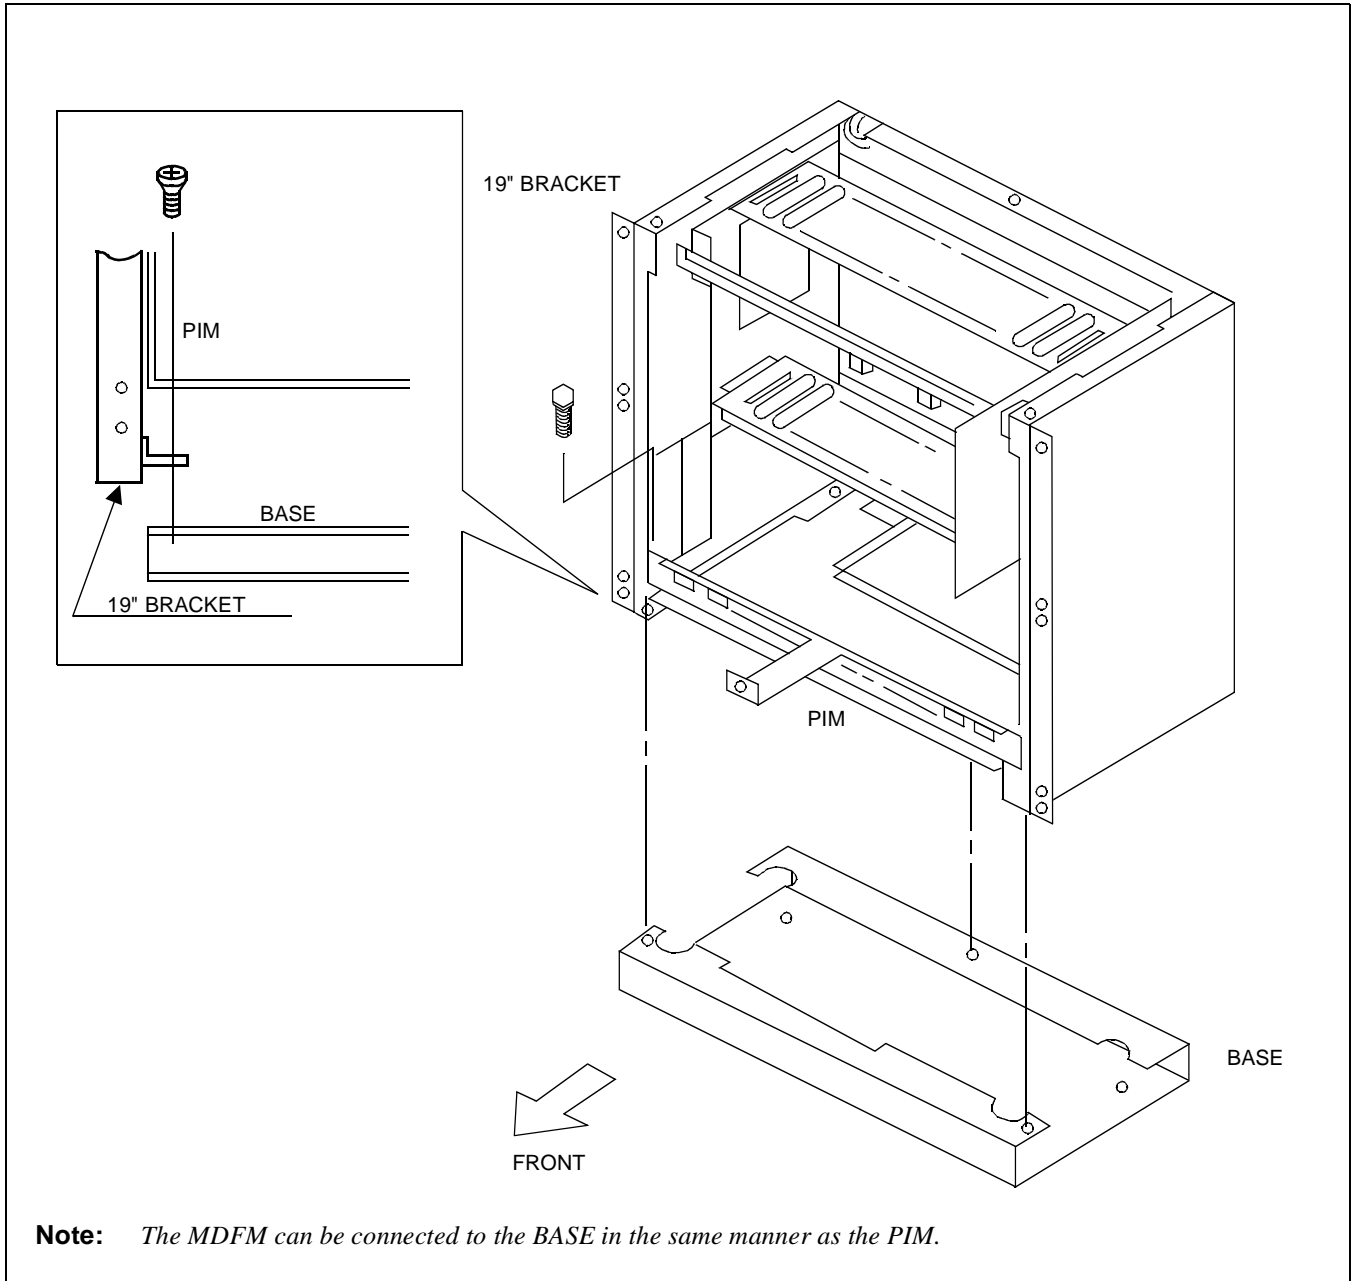

Figure 003-28 Connecting the BASE to the PIM
(5) Connect the BASE to the bottom PIM as shown in Figure 003-28.